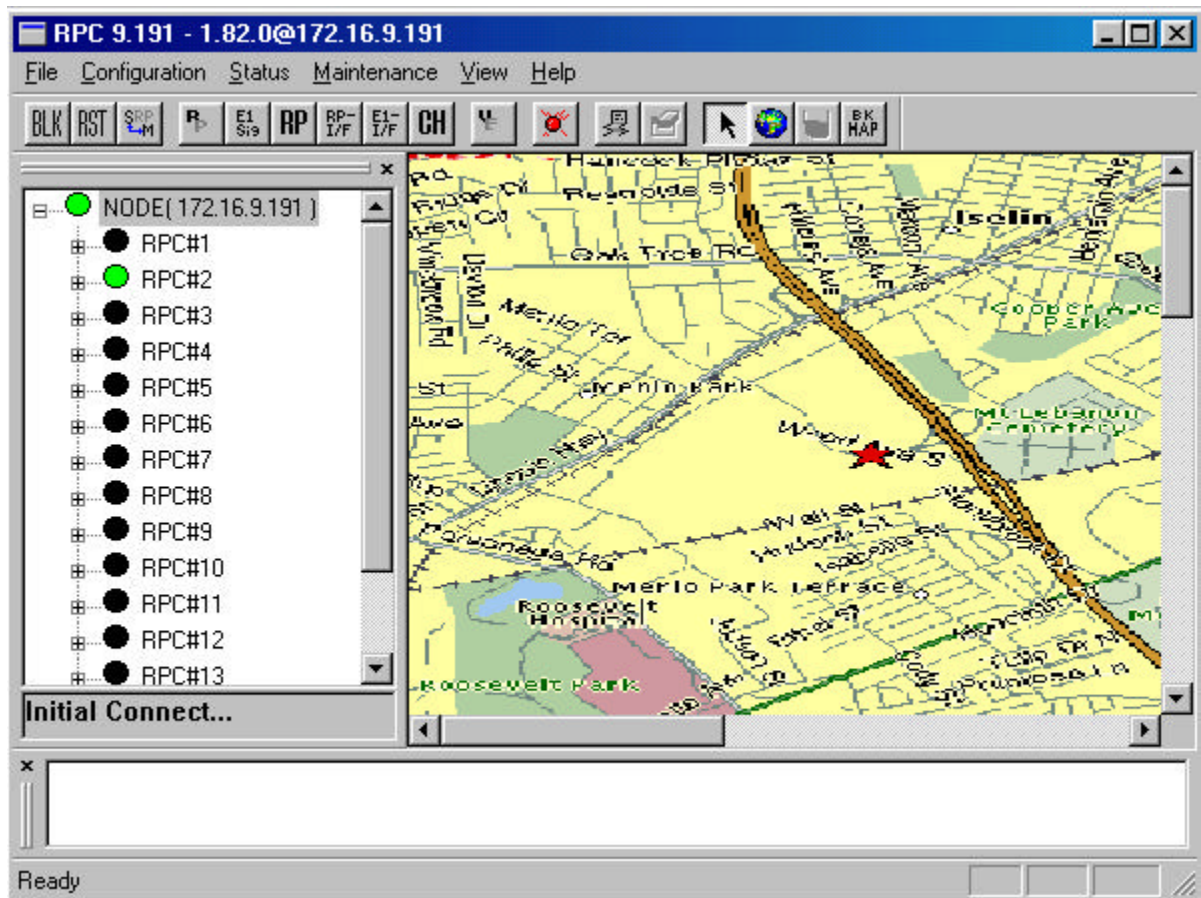

Figure 4-7: RPC Window with Background Image
3. Select the target background file from the **Bitmap** field. The **Preview** field displays the selected background image. If users are satisfied with the image, click **OK**. The image is pasted to the background of the **Status View** window, as illustrated in Figure 4-7.
5. Select the target bitmap file and click **Open**. The selected image file is added to the **Bitmap** list and displayed on the **Preview** field. Click **OK** to paste the image to the background of the **Status View** window if users are satisfied with the image. A similar window appears, as illustrated previously in Figure 4-7.